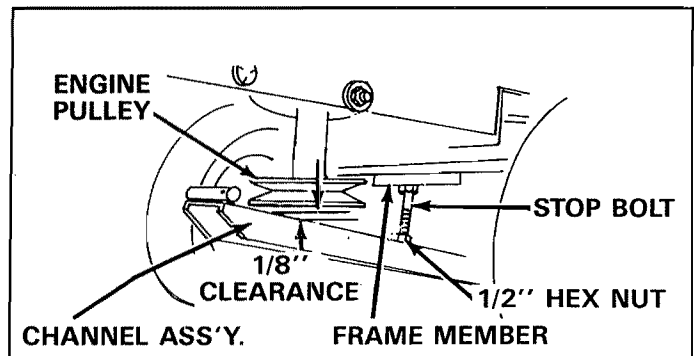

FIGURE 8
4. Adjust 1/2" x 4" stop bolt, previously assembled into channel assembly (step 1). See figure 8. Adjust hex nuts, above and below channel to provide approximately 1/8" clearance between channel and the tractor engine pulley with the stop bolt positioned against frame member. See figure 8.